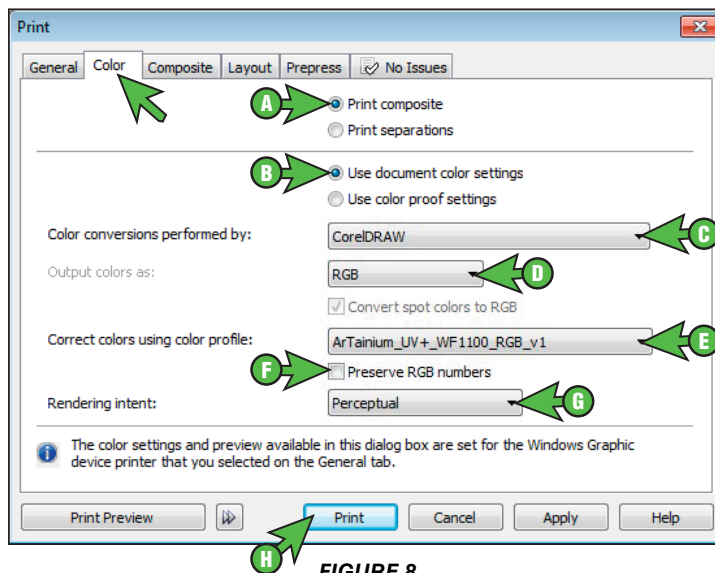

FIGURE 8
- 8.) In the Print window, click the **Color** tab and match your settings to those shown below (see *FIGURE 8*).